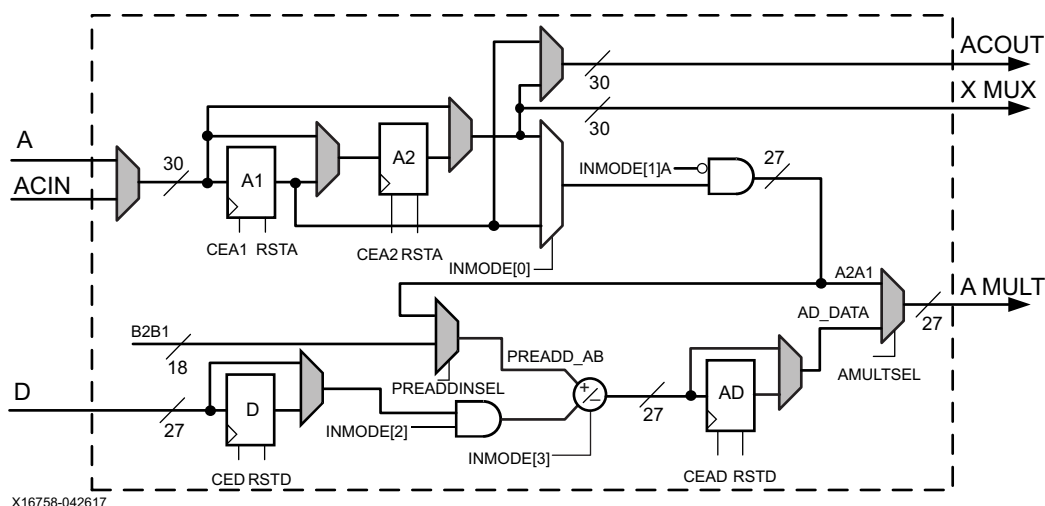

Figure 2-5: Dual A, D, and Pre-Adder Logic
The A and B input port and the ACIN and BCIN cascade port can have 0, 1, or 2 pipeline stages in its datapath. The dual A, D, and pre-adder port logic is shown in Figure 2-5. The dual B register port logic is shown in Figure 2-6. The different pipestages are set using attributes. Attributes AREG and BREG are used to select the number of pipeline stages for A and B direct inputs to the X multiplexer to the ALU, and INMODE[0] can dynamically change the number of pipeline stages to the multiplier. Attributes ACASCREG and BCASCREG select the number of pipeline stages in the ACOUT and BCOUT cascade datapaths. The allowed attribute settings are shown in Table 3-3, page 53. Multiplexers controlled by configuration bits select flow through paths, optional registers, or cascaded inputs. The data port registers allow users to typically trade off increased clock frequency (i.e., higher performance) vs. data latency.
1. INMODE[1]A and INMODE[1]B are internal signals defined by the user settings of PREADDINSEL and INMODE[1]. If PREADDINSEL=A, INMODE[1]A (see Figure 2-5, page 23) is INMODE[1] and INMODE[1]B (see Figure 2-6, page 24) is 0. If PREADDINSEL=B, INMODE[1]B is INMODE[1] and INMODE[1]A is 0.